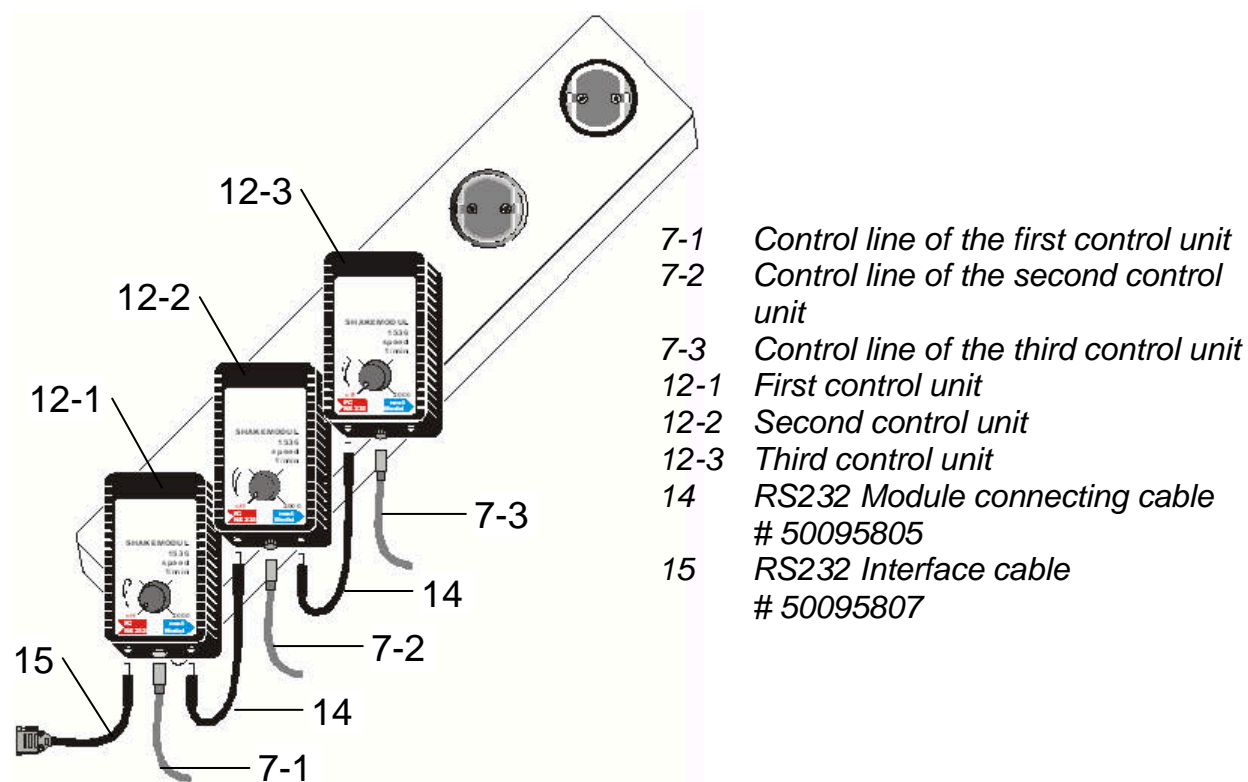

Figure 11: Controlling several control units
- ◆ Plug the mains cable of the first control unit (12) into the first socket of the socket strip (see Figure 11).
- ◆ Insert the computer plug of the RS232 interface cable (15) into the COM socket of the PC.
- ◆ Insert the control unit plug of the RS232 interface cable (15) into the red jack socket (10) of the first control unit (12) (see Figure 5 and Figure 11).
- ◆ Plug the control line (7) of the magnetic shaker (4) into the control line connector (8) of the control unit (12).
- ◆ Use the RS232 module connecting cable (14) to connect the blue jack socket (9) of the first control unit (12) to the red jack socket (10) of the second control unit (12) (see Figure 11).
- ◆ Use another RS232 module connecting cable (14) to connect the blue jack socket (9) of the second control unit (12) to the red jack socket (10) of the third control unit (12).
- ◆ Continue in the same manner until all control units (12) are connected.